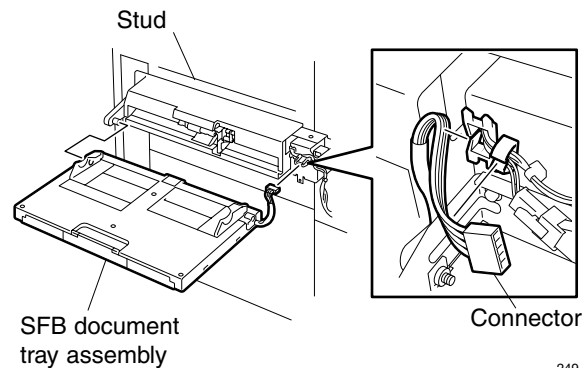

Fig. 6-6
(See Fig. 6-6)
2. Remove SFB document tray assembly. (See Fig. 6-6)
- Remove SFB document tray assembly. (See Fig. 6-6)